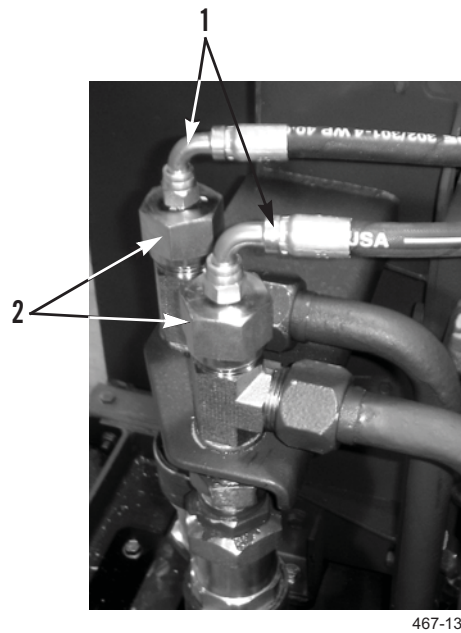

Figure 6. Fitting Hose Installation.
4. Install two hoses (Figure 6, Item 1) on quick disconnect T-fittings (Figure 6, Item 2).